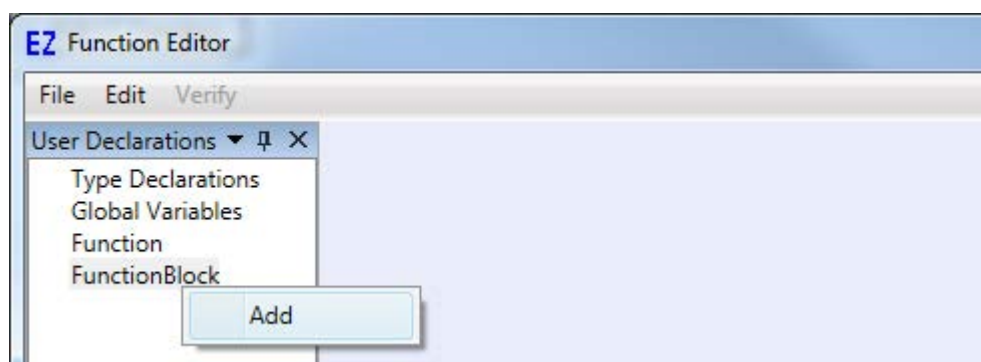

Figure 26-24
7. Click the User Defined Functions tab as before to view the list of user defined functions and function blocks. Select the appropriate type (function or function block) and right-click and select **Add**. Refer to Figure 26-24. A new function / function block will be created.